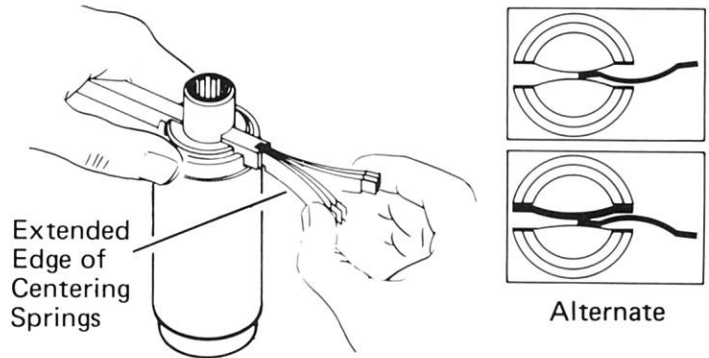

Figure 12
2 Align spring slots of spool and sleeve, then stand parts on bench. Insert spring installation tool (see tooling information, page 3) through spring slots of both parts. Position centering springs (2 sets of 3 each) on bench so that extended edge is down and center section is together. In this position, insert one end of entire spring set into spring installation tool, as shown in Fig. 12. If no tool is available, see NOTE below for alternate installation instructions.
- Push 1 set of 2 centering springs between the 2 springs in the spool, see Fig. 12.